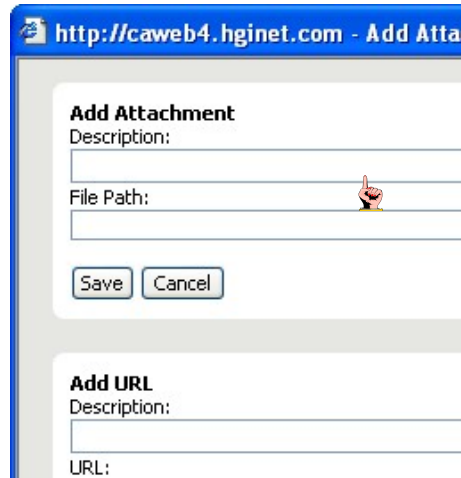

Figure 7 - File Attachment Screen Shot
6.9.2. Click 'Add' in the Attachments section, and then enter a file description that adequately describes the type of file you are attaching. If you know the path, enter it, or click browse to find the file you want to attach. You can also choose to enter a URL to a website. (see Figure 7 below)